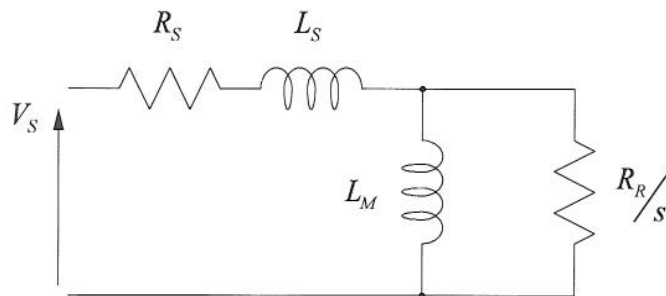

Figure Q6.1 Per-phase equivalent circuit of an induction machine (with negligible rotor leakage inductance)
- (b) For the induction machine model in Figure Q6.1, show that the torque equation $T = 3P\Psi I_R \sin(\delta)$, where P is the number of pole-pairs and Ψ is the magnitude of the air-gap flux-linkage, becomes Eqn 6.1. [5]
- (c) The induction machine shown in Figure Q6.1 has the following data: